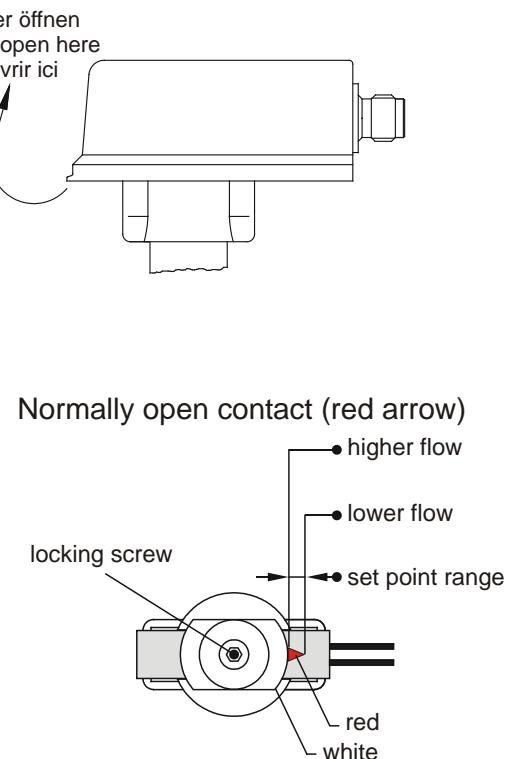
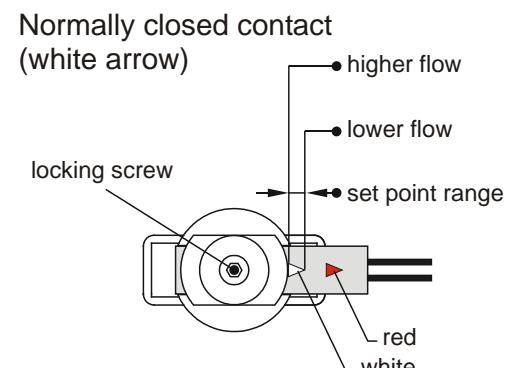

Fig. 18
Fig. 19
- Subsequently loosen the locking screw (2.5 hexagon socket screw for the brass and stainless steel version or recessed head screw for the plastic version) and position the switching unit until the red or white arrow are visible at the entry of the switching contact guide for a desired make contact ( $\rightarrow$  Fig. 18) or break contact ( $\rightarrow$  Fig. 19) respectively.